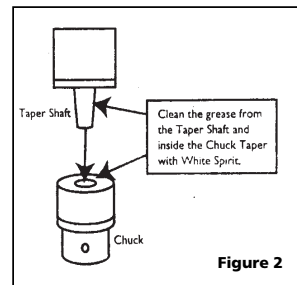

Figure 2
- Clean grease from both chuck and spindle (Figure 2).